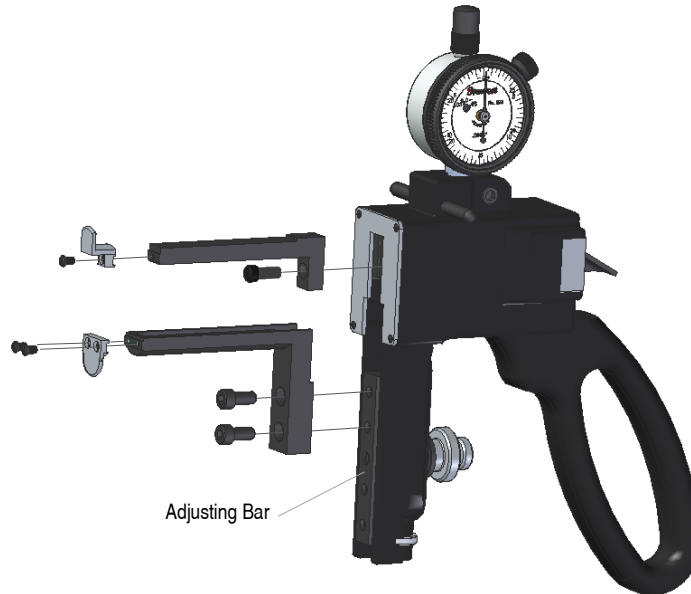

Fig.10
- *Fig. 10*, Select the proper jaws and contacts to suit the I.D. being measured and mount them on the adjusting bar of the gage.